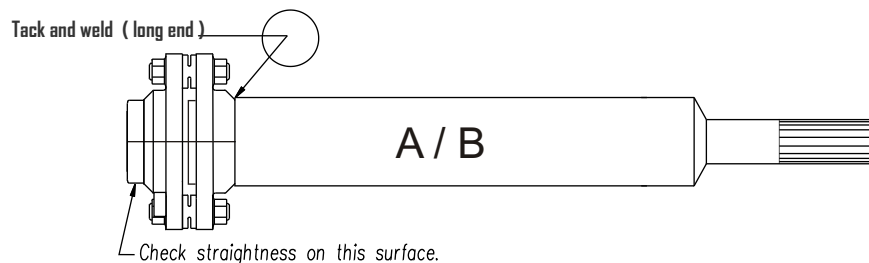

Fig. 2
4. After welding, check the straightness of the Power Train Saver with the drive shaft. The radial run out of the Power Train Saver, measured at the end, Must be within .002\" of True, see check straightness as shown in Fig 2.